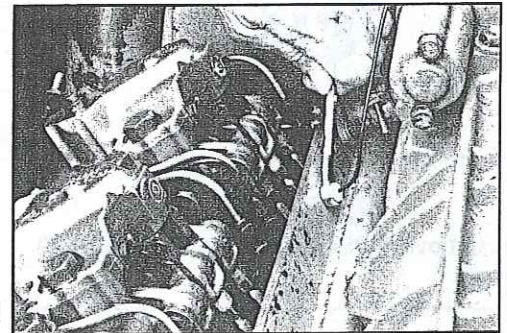

Fig. 38
5. Pull wire to take up slack between bushing and solenoid valve. Tighten bushing using a 7/16 in. six-point box end wrench. When tight, the bushing will squeeze the wire and effect a seal to prevent oil leakage. See Fig. 38.